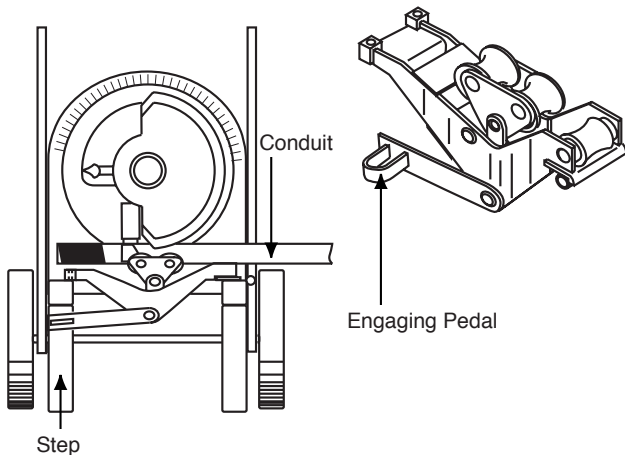

Figure 19. Engaging Pedal
4. After marking the conduit, place it into the Bender. See Figure 19. The conduit should slide over the support rollers and through the shoe groove and into the hook. The bending mark should be at the front (outside) edge of the hook. See Figure 19.
5. Step on the "Engaging Pedal" which will raise the proper rollers to come in contact with the conduit. See Figure 19.